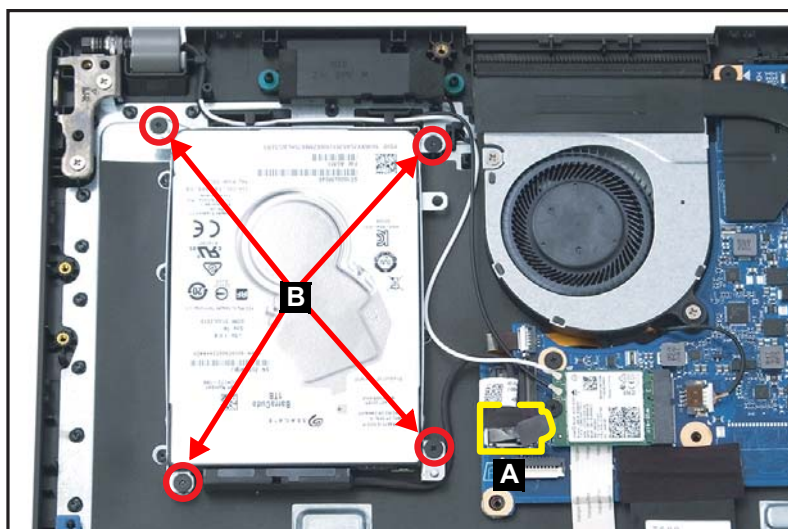

Figure 1-16. HDD Module Removal
1. Disconnect the HDD cable from the mainboard connector (A) (Figure 1-16).
2. Remove four (4) screws (B) securing the HDD bracket (Figure 1-16).